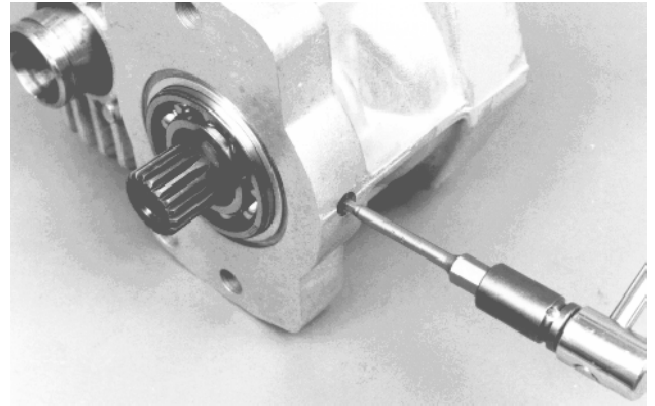

Figure 67
12. Install pipe plug over motor shaft bearing retaining pin and tighten to a torque of 6 to 9 ft-lb (8 to 12 N-m) (Fig. 67).